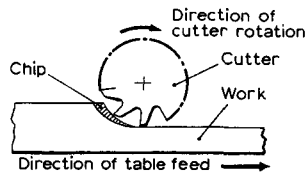

Fig. 4.222 Upcut milling
Two methods of horizontal milling are possible, as shown in Figs 4.222 and 4.223.
1. *Upcut or conventional milling*, Fig. 4.222: